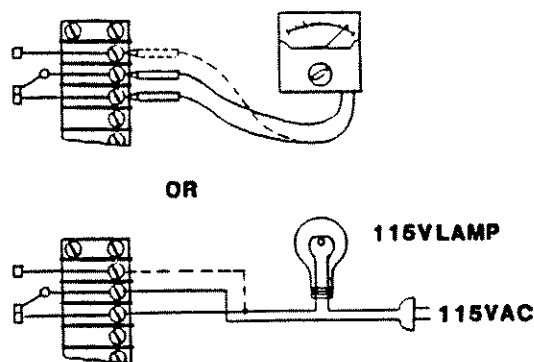

Figure 5-4
2. Relay operation may be heard as an audible click if the background noise is not too high. Use one of the methods shown in Figure 5-4 to determine if the relay contacts are switching.